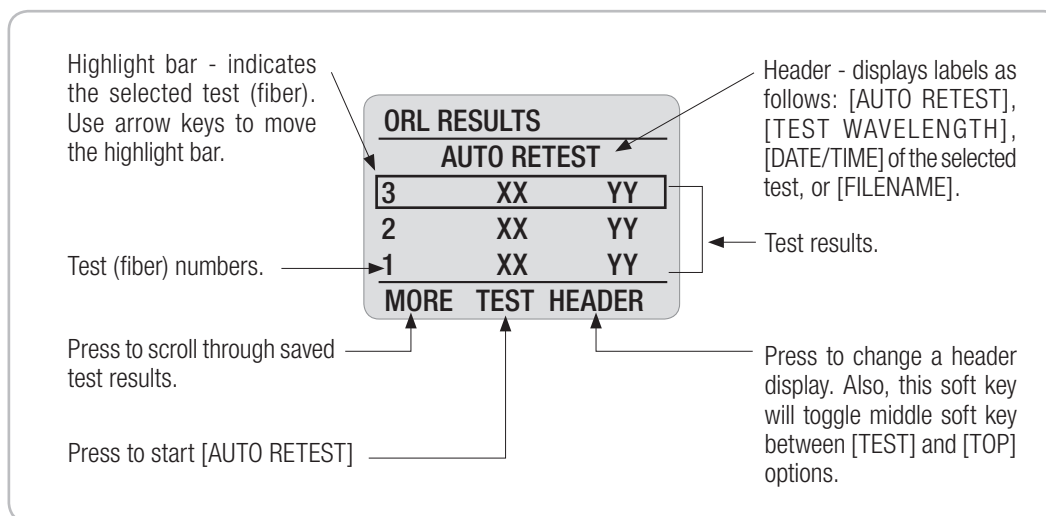

Figure 5-5. Reviewing Saved ORL Test Results.
Refer to Figure 5-5 for a related illustration.
- 4 Press the [SELECT] soft key to access the [ORL RESULTS] screen (refer to Figure 5-5).